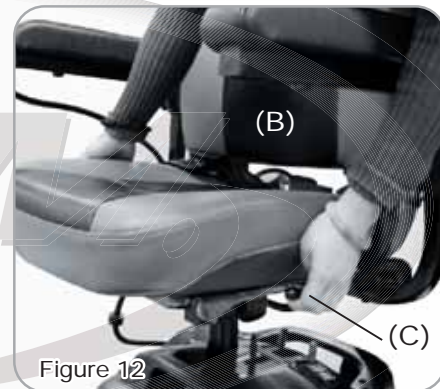

Figure 12
Pull the Seat Rotation Lever (B) underneath the front part of the seat to unlock. Lift Seat (C) up to remove. (See Fig. 12)